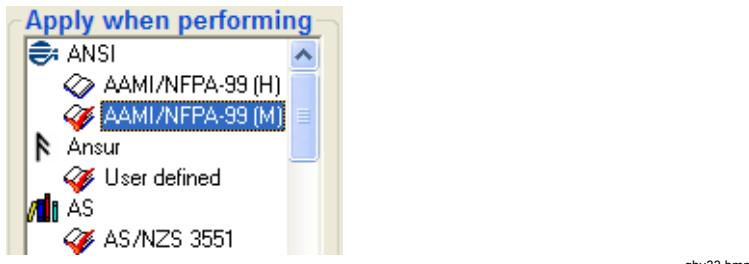

Figure 3-21. Selecting Standards
3. Click on the standard(s) to which you want to add a limit value. The list of standards shown in Figure 3-21 may be different depending on the currently installed Plug-In. The International Standards that are used by the ESA620 Plug-In are listed in Table 3-1.